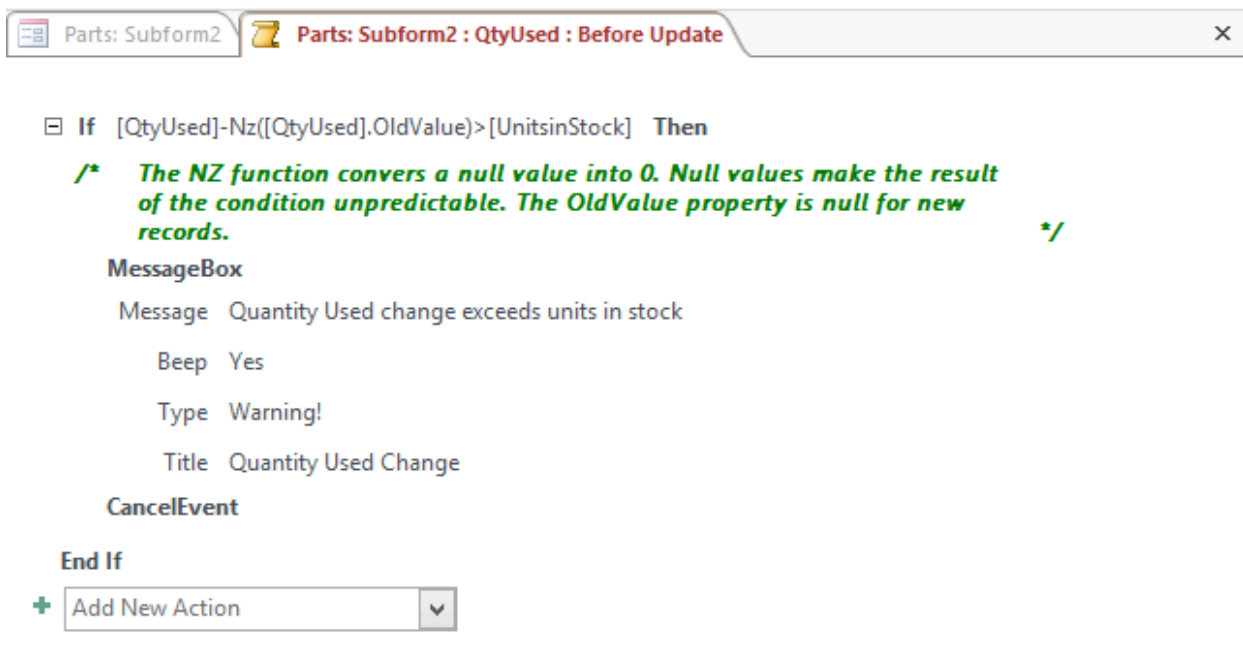

Figure 41: *CancelEvent* Action Specified for the If Action
7. Add CancelEvent Action: In Add New Action combo box below the MessageBox action (but still inside the If action), select “CancelEvent”. Figure 41 shows the completed macro. Save the macro when finished and return to the *QtyUsed* Properties window.